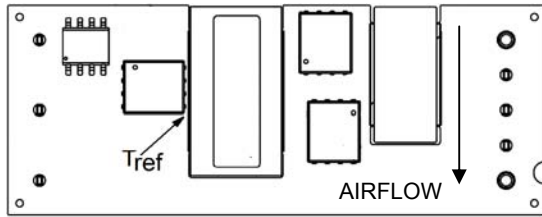

Figure 13.  $T_{ref}$  Temperature Measurement Location for Open Frame Module.
To provide protection under certain fault conditions, the unit is equipped with a thermal shutdown circuit. The unit will shutdown if the thermal reference point  $T_{ref}$  (Figure 13), exceeds  $135^{\circ}C$  (typical), but the thermal shutdown is not intended as a guarantee that the unit will survive temperatures beyond its rating. The module can be restarted by cycling the dc input power for at least one second or by toggling the remote on/off signal for at least one second. If the auto-restart option (4) is ordered, the module will automatically restart upon cool-down to a safe temperature.
The thermal reference point,  $T_{ref}$  used in the specifications for open frame modules is shown in Figure 13. For reliable operation this temperature should not exceed 123°C.